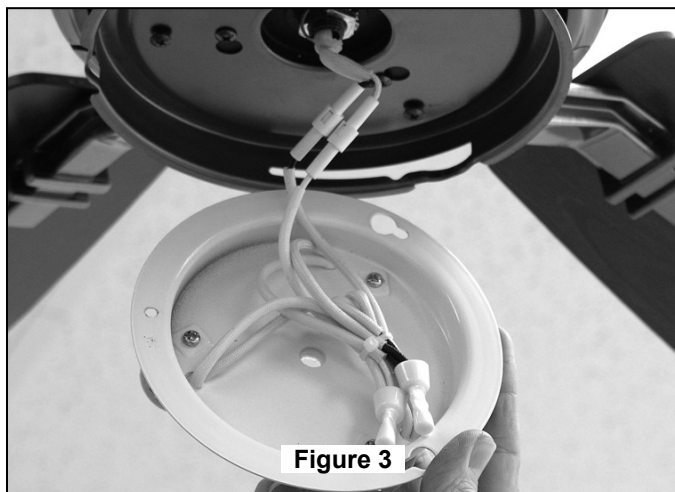

Figure 3
5. Attach assembled blades and blade holders to the motor hub using the provided screws with lock washers. (Figure 3)
3. Securely attach plugs from motor to sockets on Downlight Support Plate Assembly (Figure 3)